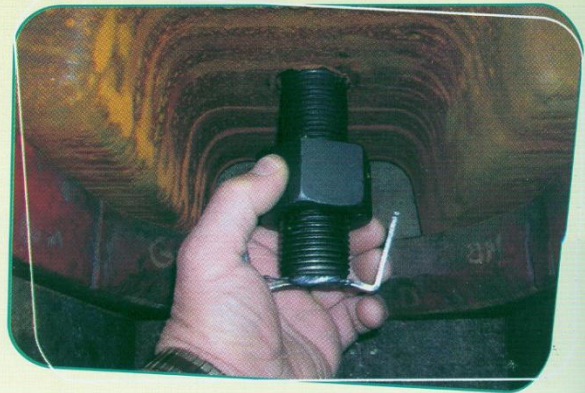

Figure 2
5. General Removal Notes: Prior to removal, all Twin-Pack® systems must be regagged. Begin by bending the tabs of the 'nut lock' out of the way of the nut. See Figure 1. Next rotate the nut until it is seated against the Twin -Pack rear follower. See Figure 2 and figure 3.